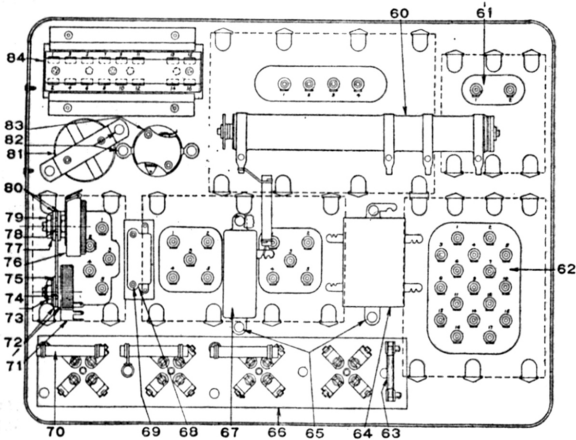

Fig. 3—Bottom View of Power Amplifier Unit, Showing Parts
4. ADJUSTING HUM CONTROLS—The two hum control potentiometers, shown at 19, Fig. 1, and 68, Fig. 3, should be adjusted at the time of installation in the following manner:
- f. Shorted condenser, 64, Fig. 3, across power line in power-amplifier unit.